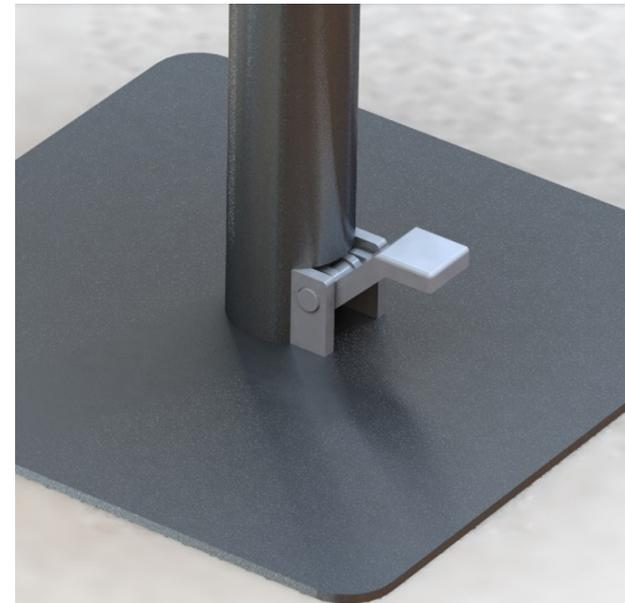

Figure 6 - Manual installation of the pedal
The pedal will be connected to the system by holding the pedal parts (10/11) in position and sliding the pin (12) through the holes in the pedal pieces and brackets, figure 6. This enables the foot pedal to pivot around the pin.